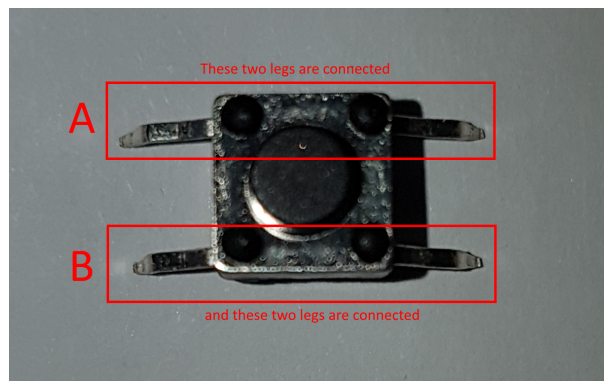

Figure 3: Button layout: The two pins in each pair is essentially the same pin. One pair should be connected to ground and the other to a digital input pin
- Connect the LED and the button to the Uno. The button should be connected to ground and to one of the digital pins. See figure 3